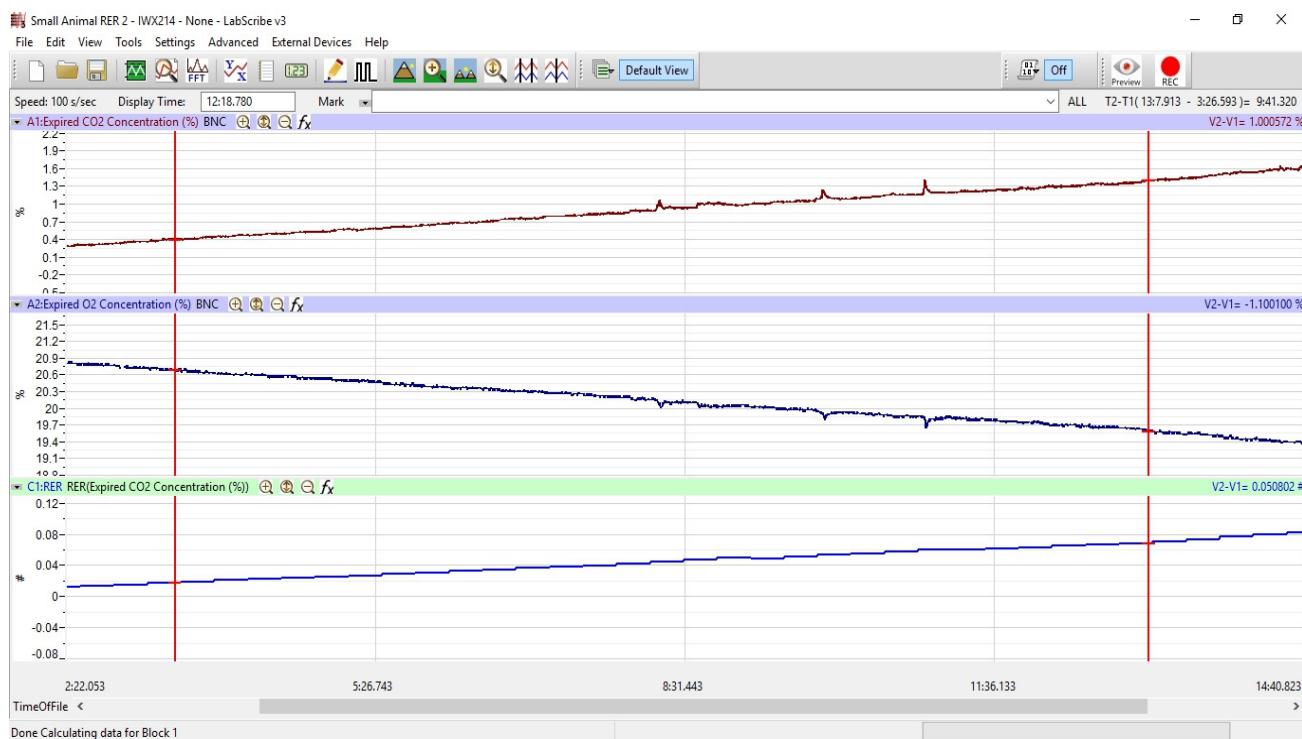

Figure AMe-6: The recording of the expired CO2 over a period of 28 minutes showing a change in concentration by 1%.
10. Once the appropriate data is recorded, click Stop to halt the recording. Your recording should be similar to the data displayed in Figure AMe-6.
2. Make any necessary changes on the RER channel by opening the RER Calculation dialog window (Figure AMe-6).